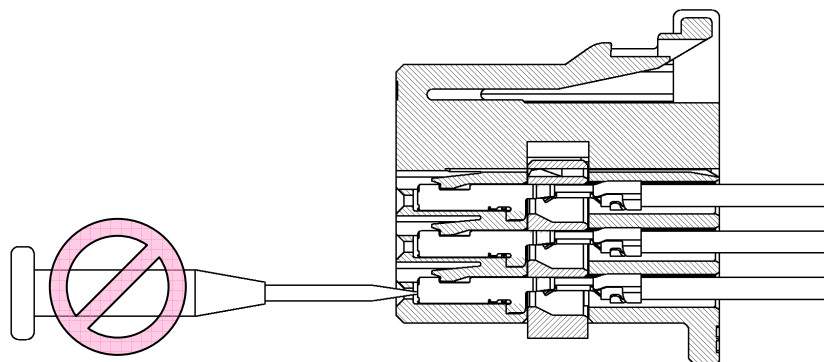

Fig.15
- (1) Check to make sure that the contact is inserted into the housing in proper condition, the wire is taped up from proper position, and the retainer is in final lock condition. If the retainer is in pre-assembled condition, it must be changed to be in final lock condition. See para.6.2
- (2) And then check the contact and the housing into the male housing for defects, deformation, discoloration, damage, rust, crack, deficit, etc.
- (3) Insert the proper female housing into the male housing straight with same direction as shown in Fig.15. The operation is finished when you hear the click sound and can not insert further. When you can not insert the housing, do not insert by force, and check the items in (1), (2).